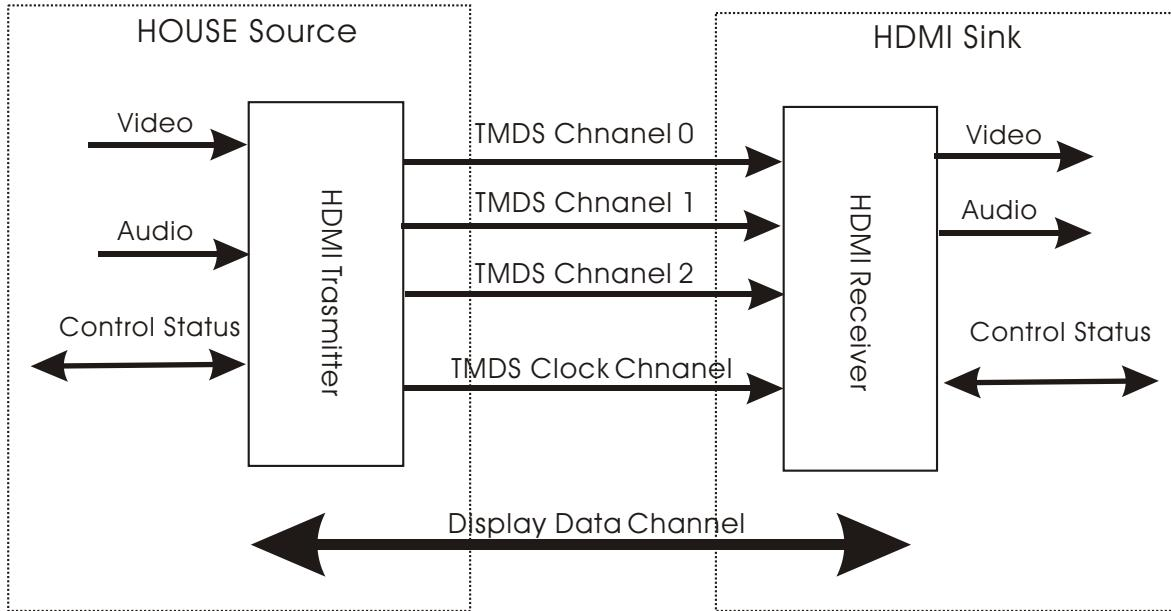

Figure 3.2.16.1 HDMI circuit block diagram
1. HDMI circuit block diagram is shown in the figure 3.2.16.1, "Source" refers to device with HDMI output jack and "Sink" refers to device with HDMI input.